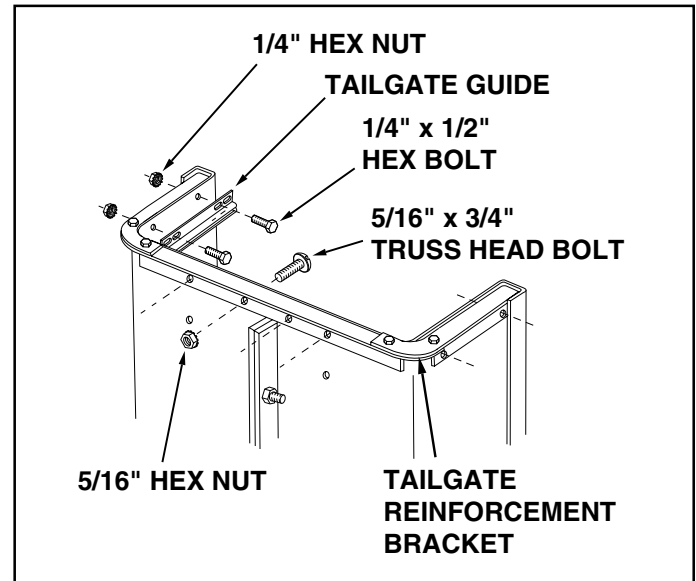

FIGURE 3
5. Position the tailgate reinforcement bracket on outside of cart as shown in figure 3. Assemble to the bottom of the cart body using four 5/16" x 3/4" truss head bolts and 5/16" hex nuts. **Do not tighten yet.** See figure 3.
6. Position the tailgate guides on the inside of the cart bodies with guide channels to the front as shown in figure 3. Assemble using four 1/4" x 1/2" hex bolts and 1/4" hex nuts. **Do not tighten yet.** See figure 3.